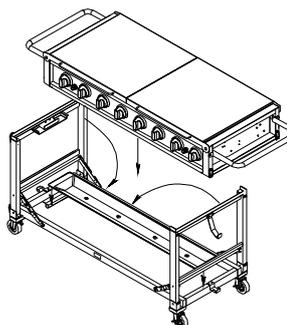

Fig. 1
2. Remove LP Gas tank and Grease Tray from your grill. Place Grease Tray on Lower Grease Tray Bracket. See Fig.1.
4. Fold the Cart Legs onto Cart Frame. See Fig.1.
5. With an assistant, lift and position Grill Bowl onto the folded Cart. See Fig.1.